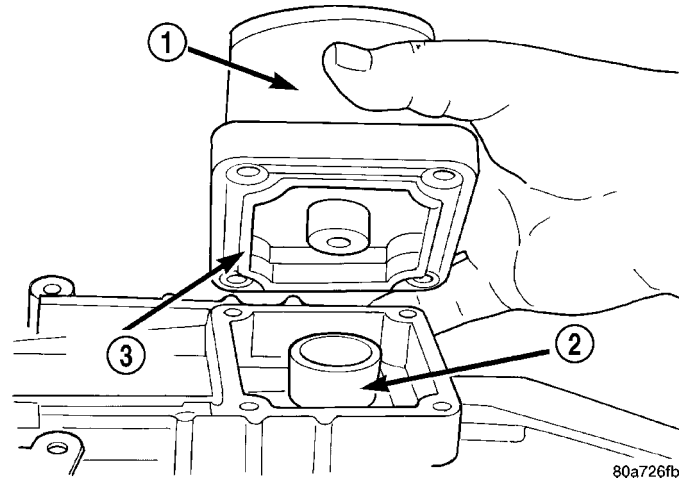

Fig. 128 SHIFT TOWER
- (1) Apply petroleum jelly to ball end of shift lever and interior of shift socket.
- (2) Shift the transmission into third gear.
- (3) Align and install shift tower and lever assembly (Fig. 128). Be sure shift ball is seated in socket